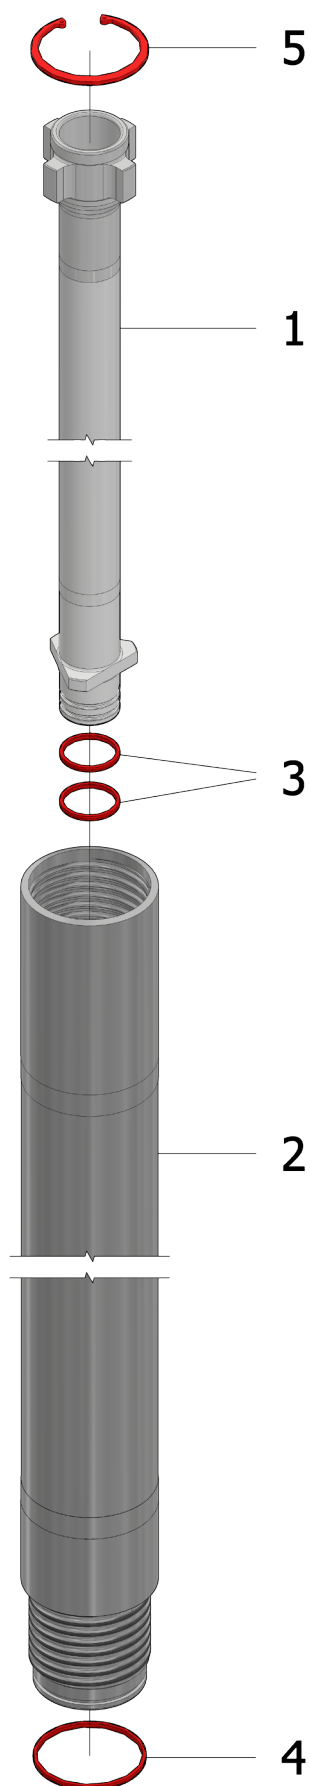

FIG. 3.14
**D.114 C2H ROD: J-1C2H1000 (L=1000); J-1C2H2000 (L=2000); J-1C2H3000 (L=3000) (REF. FIG. 3.14)**